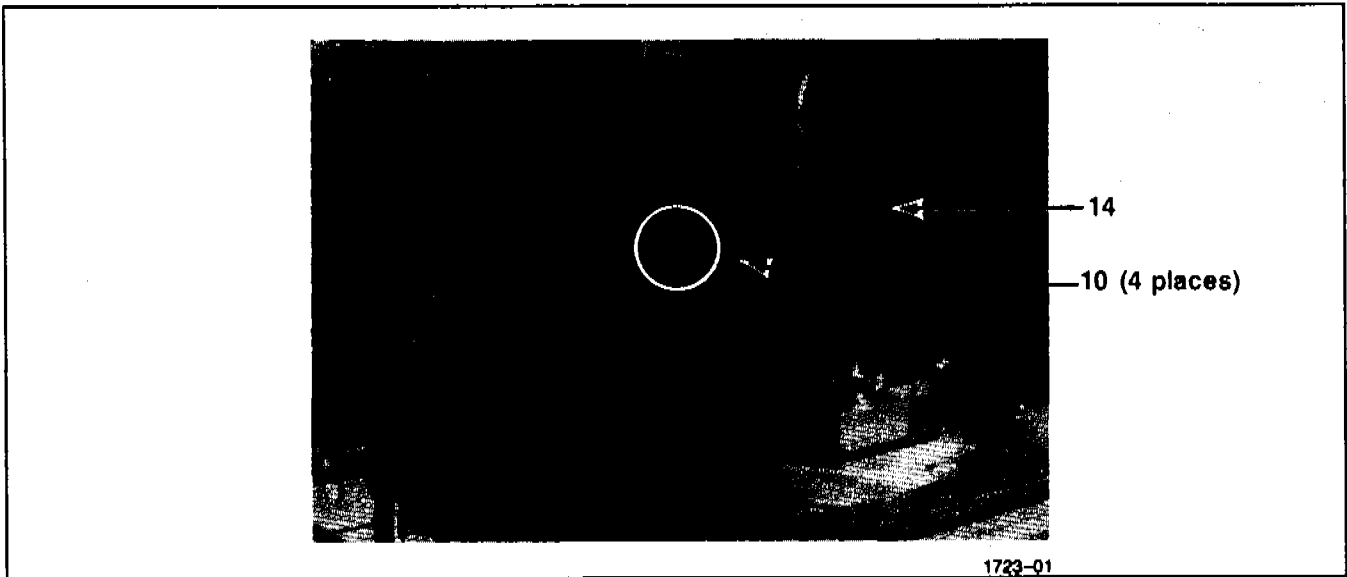

Figure 16
16. Install the chimney top (14), (figure 16) with four M4 X 8 mm screws (10), to complete the detector installation.